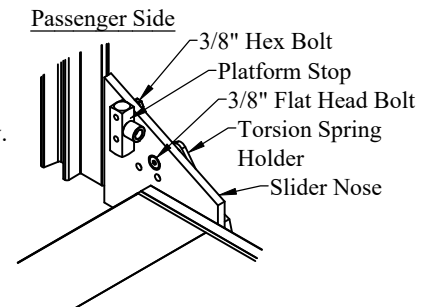

Figure 5: RF 55-12 platform stop.
1. Remove the platform stops (Figure 5).
6. Confirm that there is access to the flat head bolt on the passenger side slider nose (Figure 5).
19. Confirm that there is access to the flat head bolt on the passenger side slider nose (Figure 5).